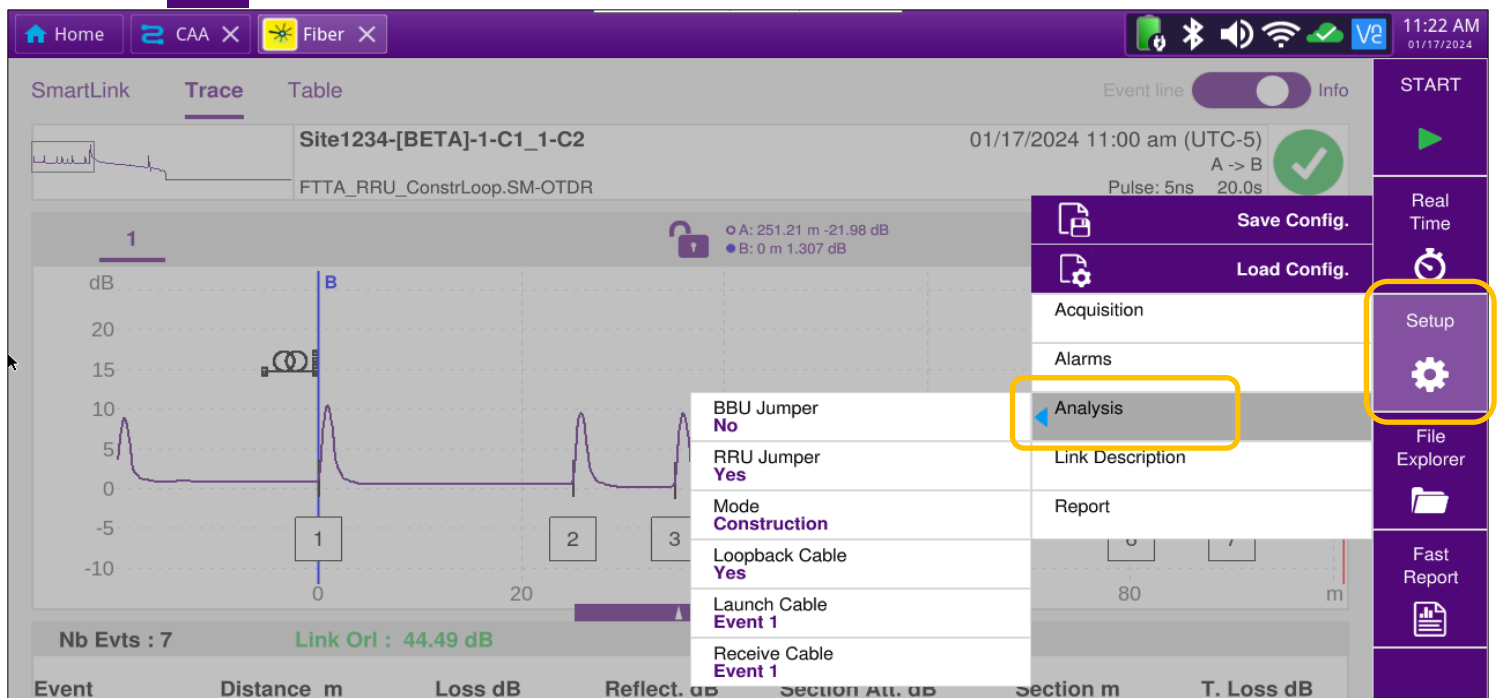

Figure 9: Setup example - BBU Jumper No, RRU Jumper Yes, and using loopback cable at tower
5. Configure Setup > Analysis (*Figure 9* above) settings as follows: